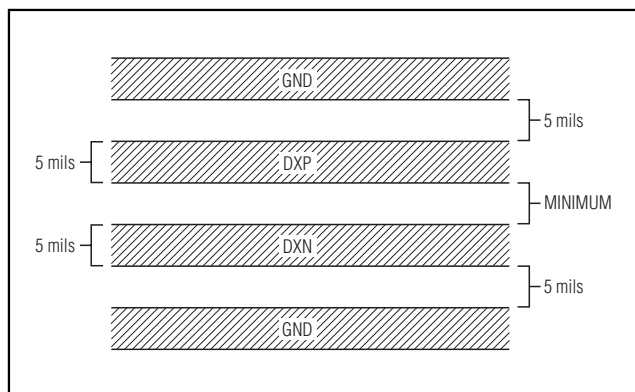

Figure 5. Recommended Minimum DXP-DXN PC Board Traces.
- 3) Route the DXP and DXN traces in parallel and in close proximity to each other. Each parallel pair of traces should go to a remote diode. Route these traces away from any higher voltage traces, such as +12VDC. Leakage currents from PC board contamination must be dealt with carefully since a 20MΩ leakage path from DXP to ground causes about +1°C error. If high-voltage traces are unavoidable, connect guard traces to GND on either side of the DXP-DXN traces (Figure 5).